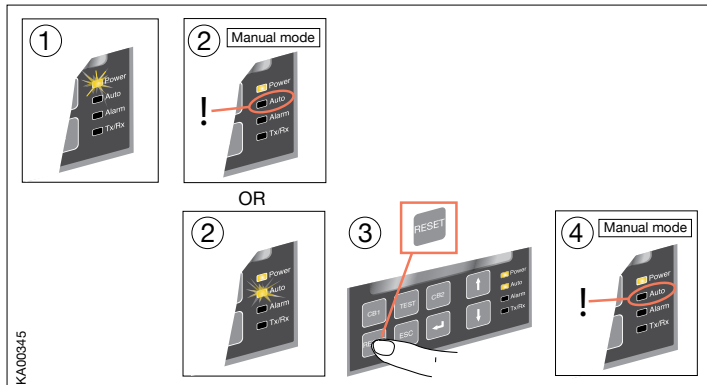

Figure 4.1 Selecting the automatic transfer switch ATS022 to Manual Mode
- Make sure that power LED is ON, see the Figure 4.1/①.
- If Auto LED is OFF /②, the automatic transfer switch is in Manual Mode.
- If the Auto LED is ON, push the RESET key once /③. The Auto LED switches to OFF and the automatic transfer switch ATS022 is in Manual Mode /④.